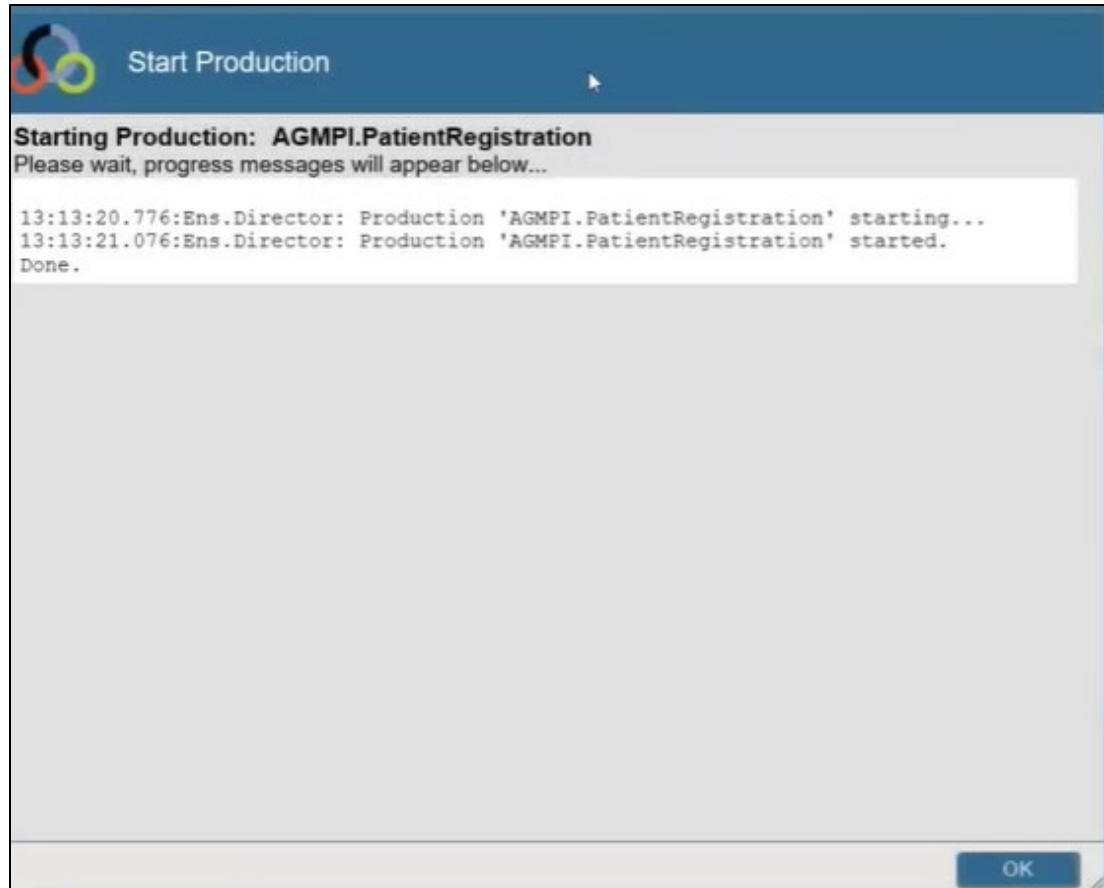

Figure 8-3: Start Production window
3. The **Start Production** window opens. Click **OK** (Figure 8-3).